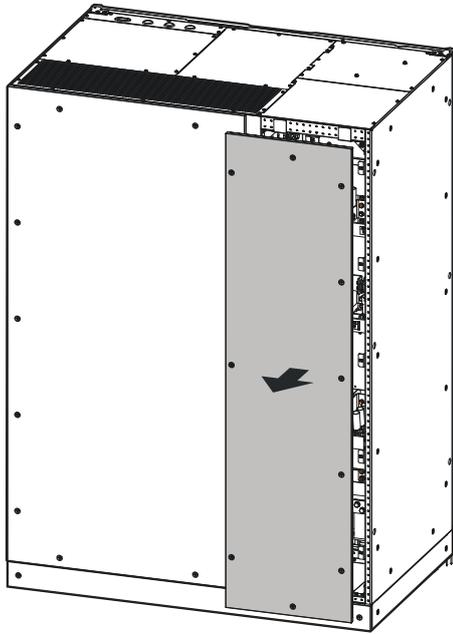

Figure3-26 Dismantle wiring cover plates of PS500KVA、PS600KVA
Step 1 Use the cross screwdriver to remove the screws from the wiring block, and dismantle wiring cover plates, as shown in Figure3-26.